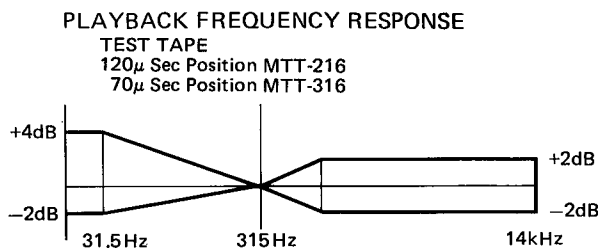

Fig. 20
- Play back the test tape (MTT-216) and note the frequency response obtained on the VTVM. Confirm that frequency response is within the range as shown in Fig. 20.
- Play back the test tape (MTT-316) and note the frequency response obtained on the VTVM. Confirm that frequency response is within the range as shown in Fig. 20.